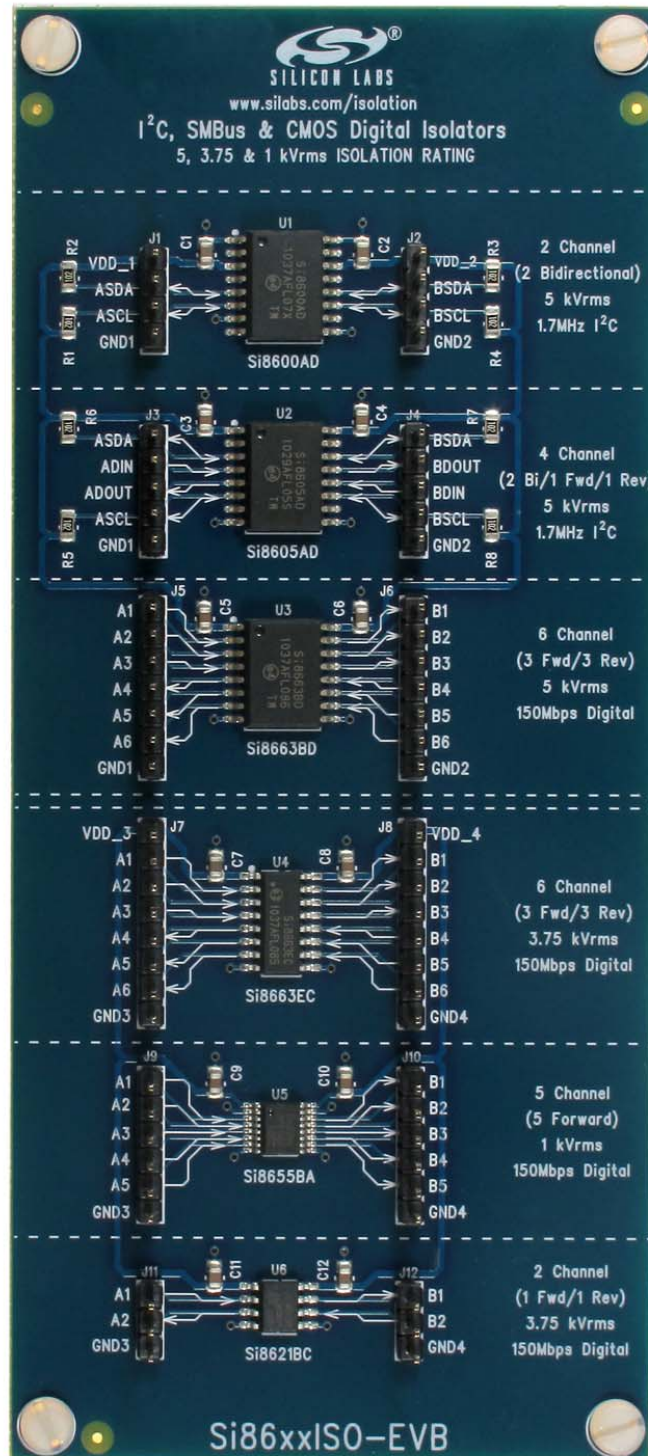

Figure 1. Si86xxISO Evaluation Board Overview
- Si86xxISO based evaluation board (Si86xxISO-EVB) shown in Figure 1.
The Si86xxISO evaluation board (see Figure 1) provides a means of evaluating the Si861x,2x,3x,4x,5x,6x digital isolator families as well as the Si8600 isolated I²C family. After power (2.5–5 V) has been supplied to the board, connect a digital input signal (5 V_{peak} max, with desired clock frequency up to 150 Mbps) to the desired input channel. To view the isolated channel's data transmission, connect a scope probe to the output channel of interest. There are various inputs and outputs on either side of the board depending on the device one chooses to evaluate, as indicated by the silk screen. The board can be used to measure propagation delay, pulse-width distortion, channel-channel matching, pulse-width skew, and various other parameters.